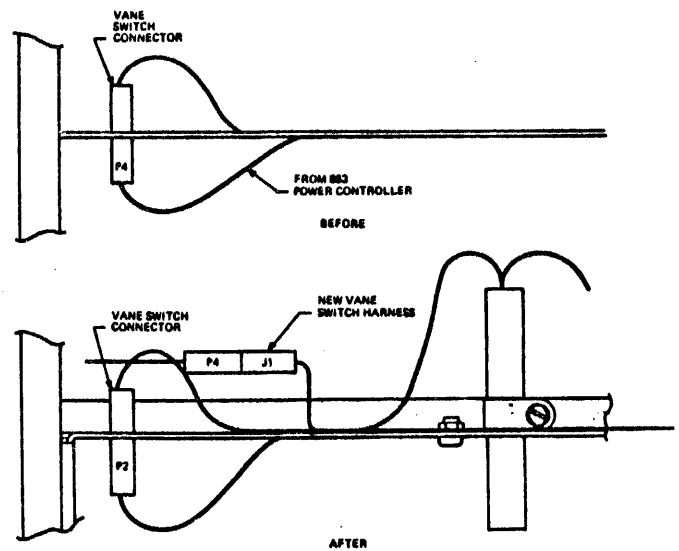

Figure 3-8. Vane Switch Harness Installation
6. At the other end of the cable, remove P4 from the original KL CPU vane switch connector and connect P4 to J1 of the new vane switch harness. Connect P2 of the new vane switch harness to the original KL CPU vane switch assembly as shown in figure 3-8.